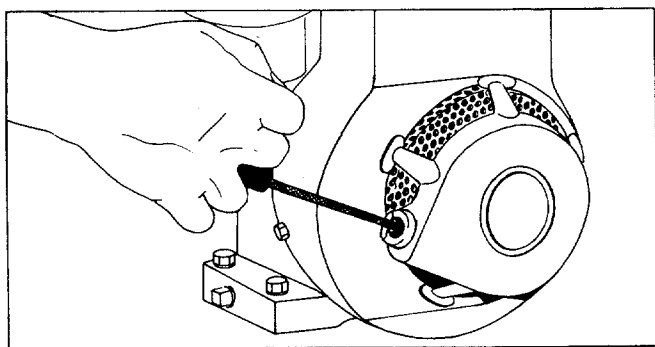

FIGURE 3-1. RECOIL STARTER
- Step 3. As illustrated in figure 3-1, grasp the recoil starter handle, pull out sharply, and hold it in the out position. (Do not let cord snap back.)